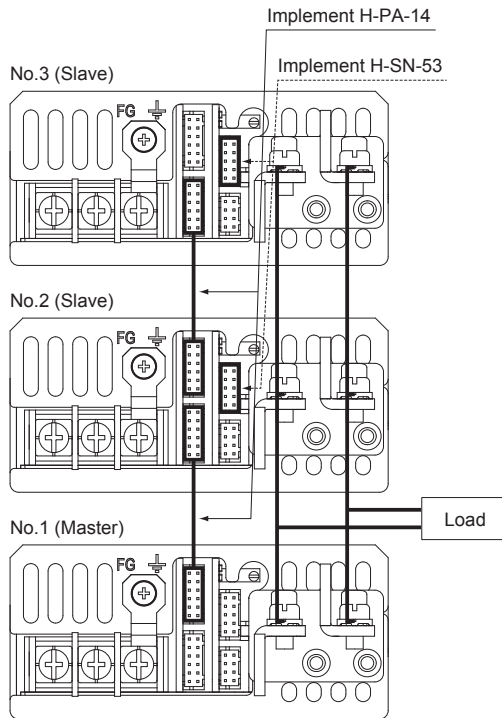

Fig.4.2 Connection method in parallel
■ Wiring method with series operation is shown in Fig.4.2.